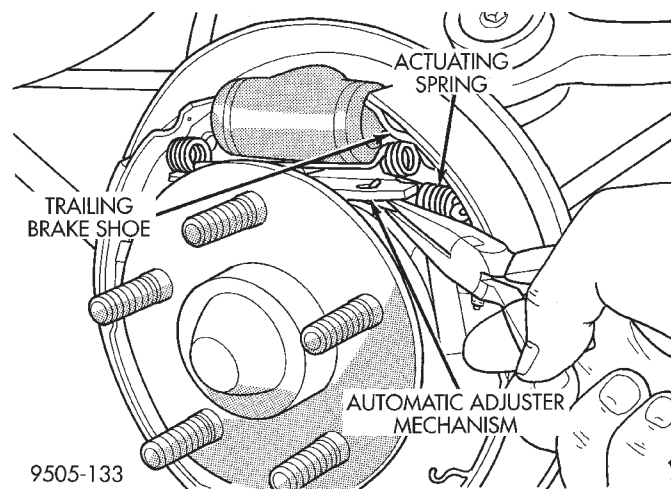

Fig. 63 Adjuster Mechanism Actuating Spring
(6) Remove the actuating spring (Fig. 63) from the automatic adjuster mechanism and the trailing brake shoe.
(9) Install the automatic adjuster actuation spring first on the trailing brake shoe and then hook it onto the adjuster mechanism (Fig. 63).
(10) Install the rear brake drums on the hubs.
(11) Install the wheel and tire assemblies.
(12) Tighten the wheel mounting stud nuts in proper sequence until all nuts are torqued to half specification. Then repeat the tightening sequence to the full specified torque of 129 N·m (95 ft. lbs.).
(13) Lower vehicle
(14) Adjust rear brake shoes. **Brake shoes will adjust by fully depressing the brake pedal 2 to 3 times. Brake shoes should now be correctly adjusted and will not require any type of manual adjustment.**
(15) Road test vehicle.